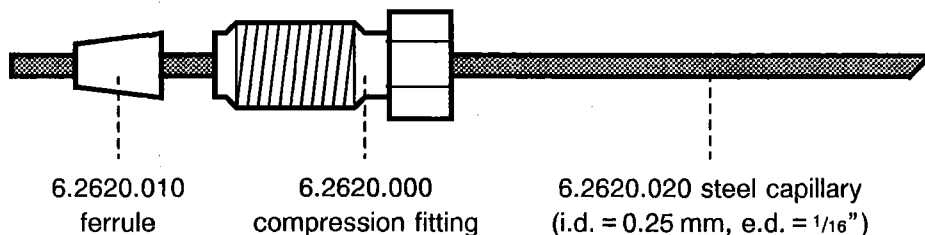

Fig. 8: Steel connectors
- 2▶ Slid a 6.2620.000 compression fitting and a 6.2620.010 ferrule over the end of the capillary as shown in Fig. 8.